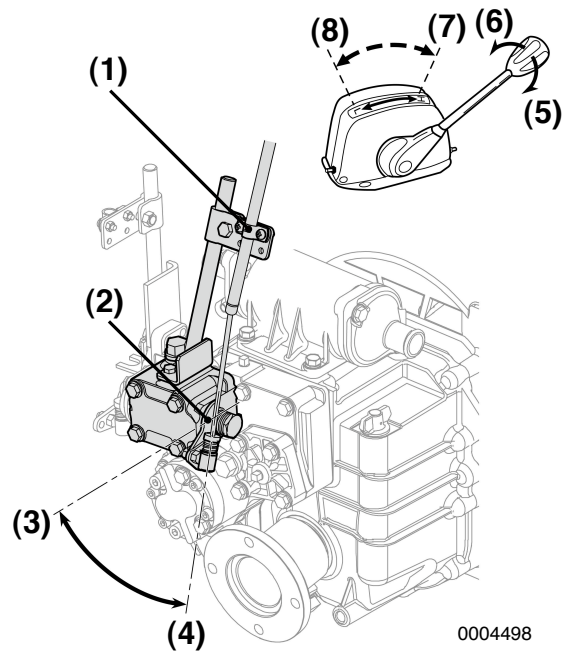

Figure 9
- Ensure that the trolling lever (**Figure 9, (2)**) is in the high speed (**Figure 9, (4)**) position when the trolling remote control handle is in HIGH speed position (**Figure 9, (7)**).
- Ensure that the trolling lever is in the low speed (**Figure 9, (3)**) position when the trolling remote control handle is in LOW speed position (**Figure 9, (8)**).
- To adjust, loosen the adjustment screw of the cable fitting (**Figure 9, (1)**) and adjust the position of the cable.